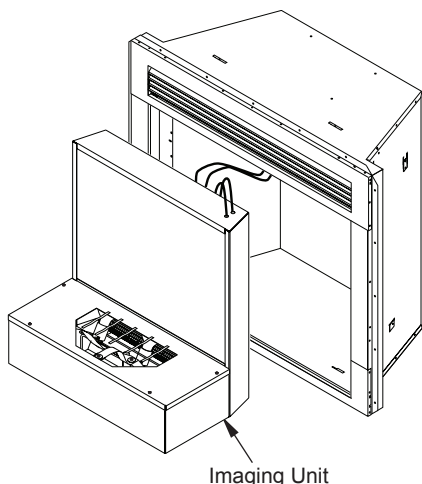

Figure 41 - Removing Imaging Unit
4. Slide entire imaging unit forward and lift out through front opening (see Figure 41, page 22).